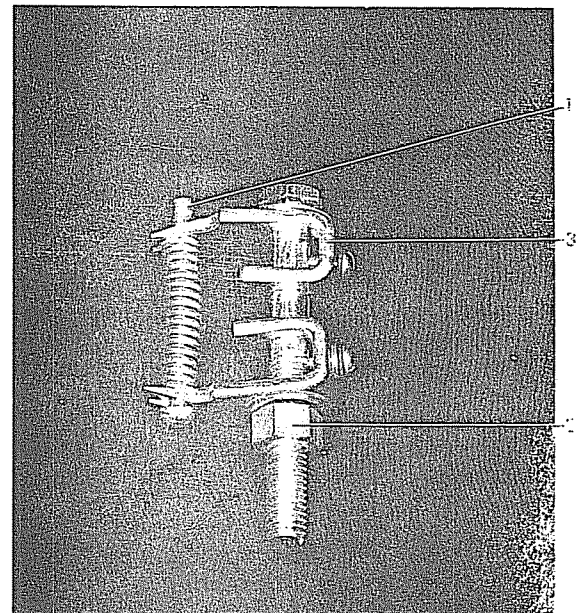

Figure 22B (8034465)
3. Turn nut (2) in clockwise direction to compress contact spring (Figure 22B). Hold spring firmly in yoke on spring compressor to prevent spring from slipping out of the compressor.